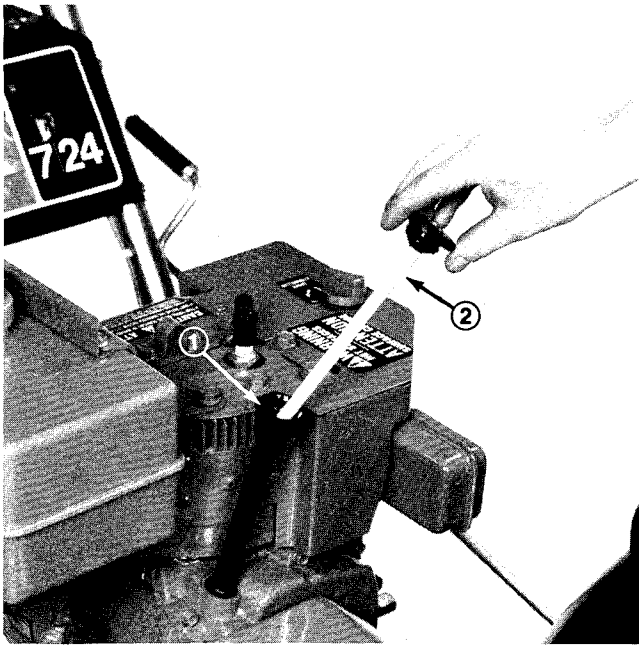

Figure 14
3. Remove dipstick from crankcase (Fig. 14).
4. Slowly, pour 19 ounces (0.562 l) of SAE 5W30 or SAE 10 oil into the filler hole (Fig. 14). The engine uses only high-quality detergent oil having the American Petroleum Institute – API – “service classification” SC, SD or SE.